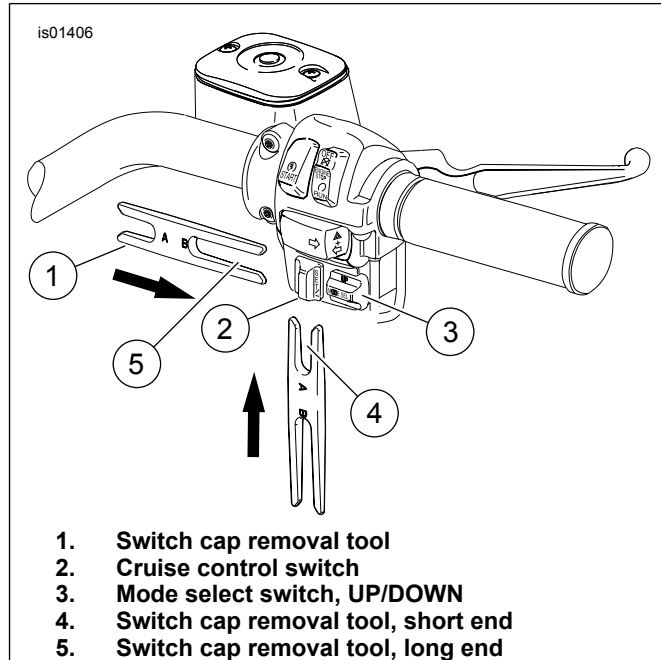
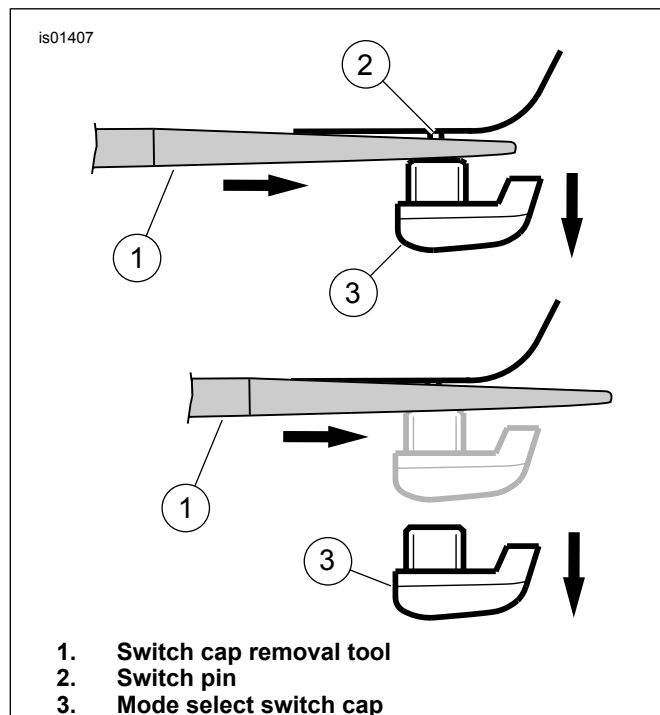

Figure 2. Cruise Control and Mode Select Switch Caps
Figure 3. Mode Select Switch Cap
1. See Figure 2. Use short end (4) of tool to remove cruise control switch cap (2). Push upwards under switch cap. The tool taper will slowly push the switch cap off switch pin.
2. See Figure 3. Use long end ( Figure 2, Item 5) of tool (1) and push tool straight and under mode switch cap until it is disengaged from switch pin (2) to remove mode select switch cap (3).